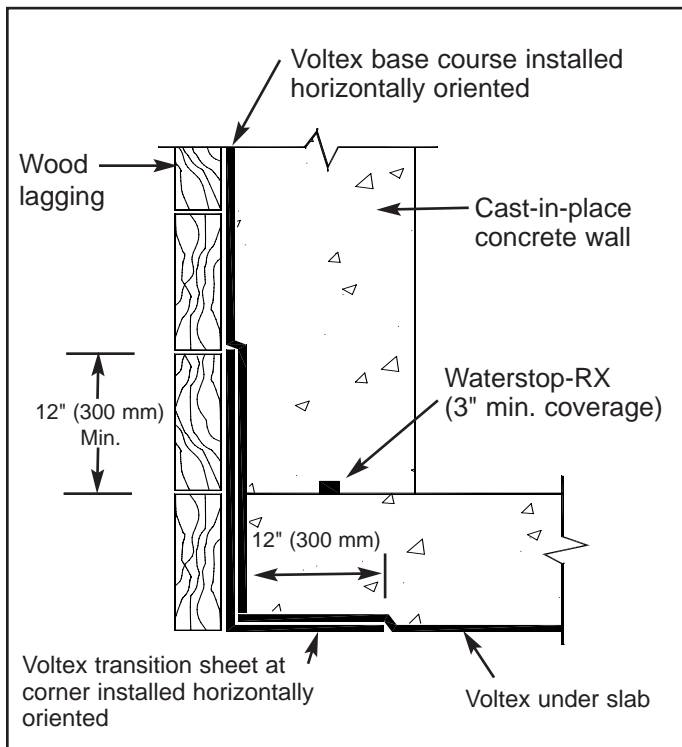

Figure 1.23 - SLAB-TO-WALL TRANSITION
Volclay Waterstop-RX should be installed in the perimeter wall/slab intersection joint as illustrated in Figure 1.23.
Where property line retaining walls, such as soldier pile and lagging, are used as the outside form, continue the underslab Voltex installation up the retaining wall a minimum 12" (300 mm) above the top edge of the slab or footing (Figure 1.23). The extra 12" (300 mm) sheet extension is very important since there is no access to the outer edge of the footing after it is poured.
**Base Wall Course:** Install first Voltex sheet course on the shoring wall horizontally oriented (dark grey woven geotextile facing installer) over the corner transition sheet, with the bottom edge extending down to the wall/slab transition corner as shown in Figure 1.23. Secure Voltex sheet to lagging wall with washer-head fasteners maximum 24" (600 mm) on center. Overlap edges of adjacent Voltex sheets a minimum 4" (100 mm).